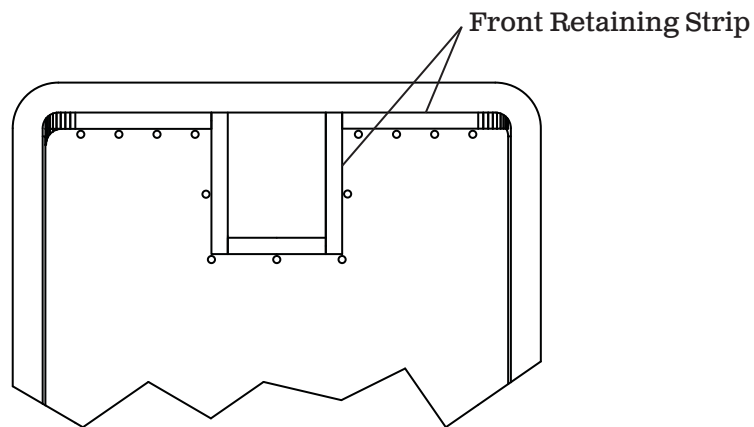

Figure 23
- 1) See **Figure 23 & 24**. Use 3/16" x 3" wide flat-stock to fit along the floor around the bulkhead/doghouse on top of the liner. Use same material as body/trailer material.